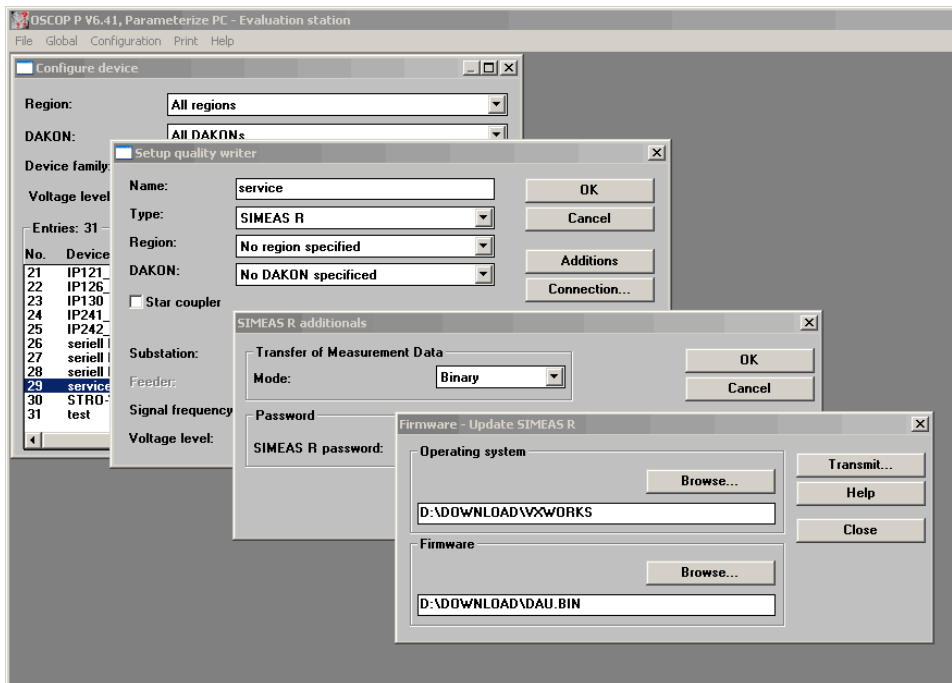

Figure 2: Firmware update via OSCOP P up to version 6.41.4
- Select the menu **Configuration** sub menu **Devices**.... A dialog named **Configure device** will appear (refer to Figure 2).
- Go to the area **Operating system** and **Browse...** for the new file VXWORKS (in Figure 2: D:\DOWNLOAD\VXWORKS).
- Go to the area **Firmware** and **Browse...** for the new file DAU.BIN (in Figure 2: D:\DOWNLOAD\DAU.BIN).